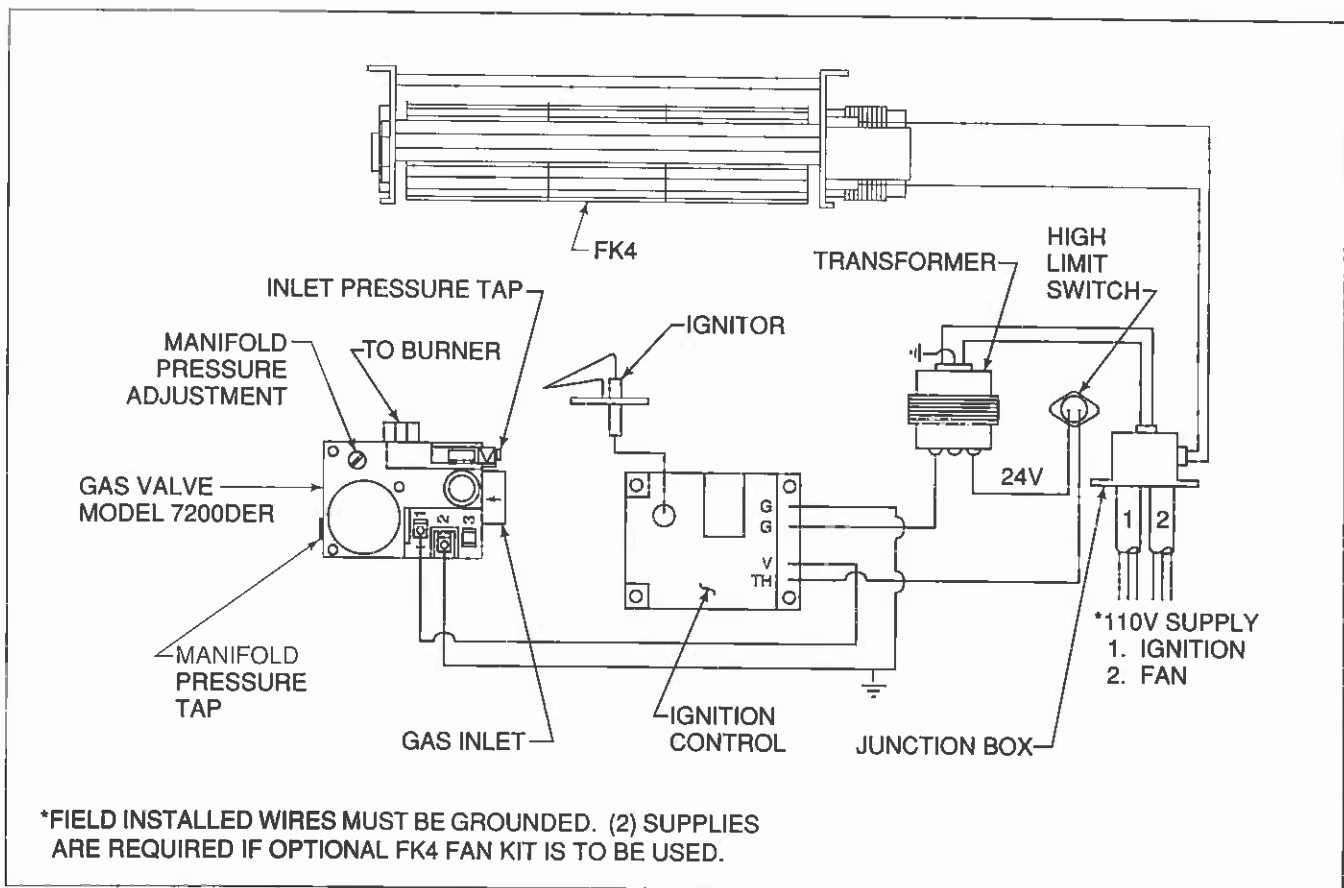

Figure 9
Remote wall switch hook-up should be installed in a convenient location. Follow Figure 9 for wiring diagram. This appliance requires a 110V power supply. If an optional FK4 Fan Kit or RC5 Remote Control Kit are to be used, wiring should be done at this time. The appliance must be electrically wired and grounded in accordance with local codes or, in the absence of local codes, with National Electric Code ANSI/NFPA 70-latest edition. Wiring diagrams are provided with these accessories and in Figure 9. This appliance is not intended for use with a thermostat.
B. No ground.	Check that wiring is grounded as shown in Figure 9.